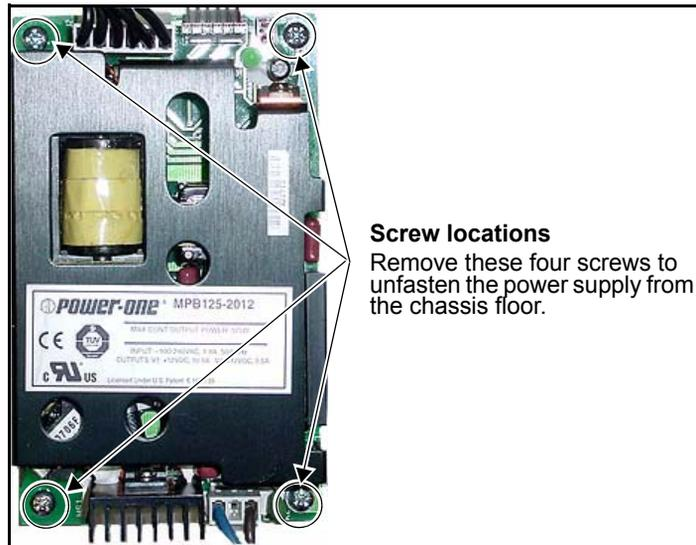

Figure C-45. Removing the Power Supply
Figure C-45 shows the location of the four screws you need to remove. Keep these screws for later reuse.
2. Install the power supply onto the four standoffs on the chassis floor, and then screw into place. (See Figure C-45 on page 362.)